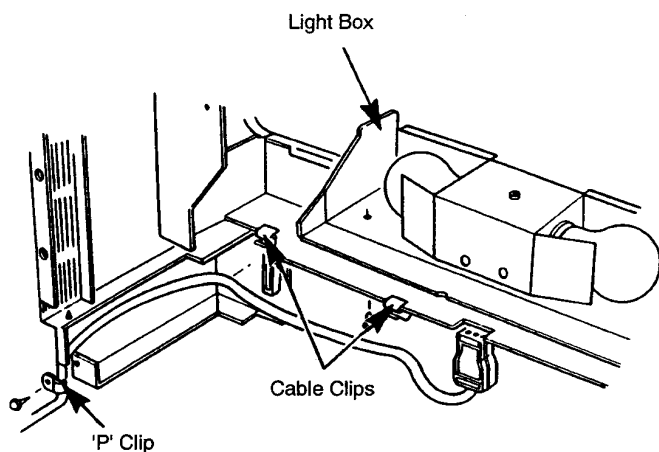

Fig. 9 Outer Case (Rear)
- (a) Fit the main electrical cable to the outer case. The cable can be routed to the left or right hand side of the case to suit the nearest adjacent electrical socket. Fit the cable in the pair of clips fixed on the outer case (2 each side). Use the 'P' clip in the pack, at the rear of the outer case (Fig. 9).